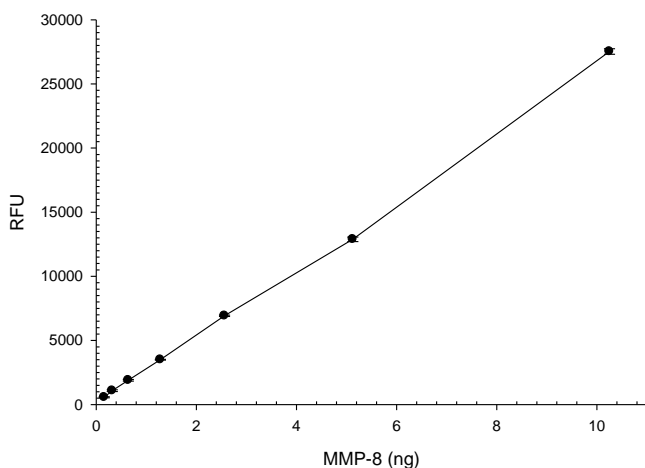

Figure 1. Sensitivity of SensoLyte[®] 520 MMP-8 assay kit.
- Plot data as RFU versus concentration of test compounds or enzyme concentration (Figure 1).